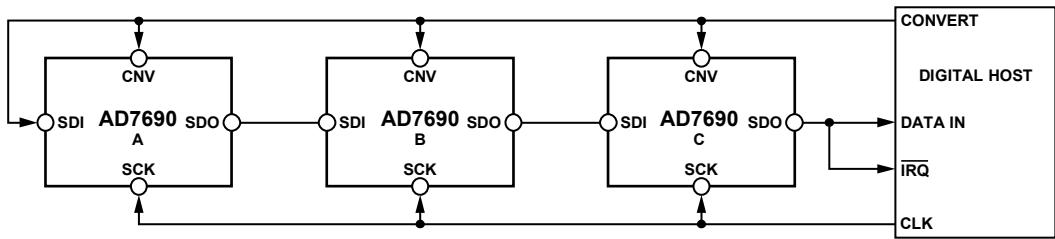
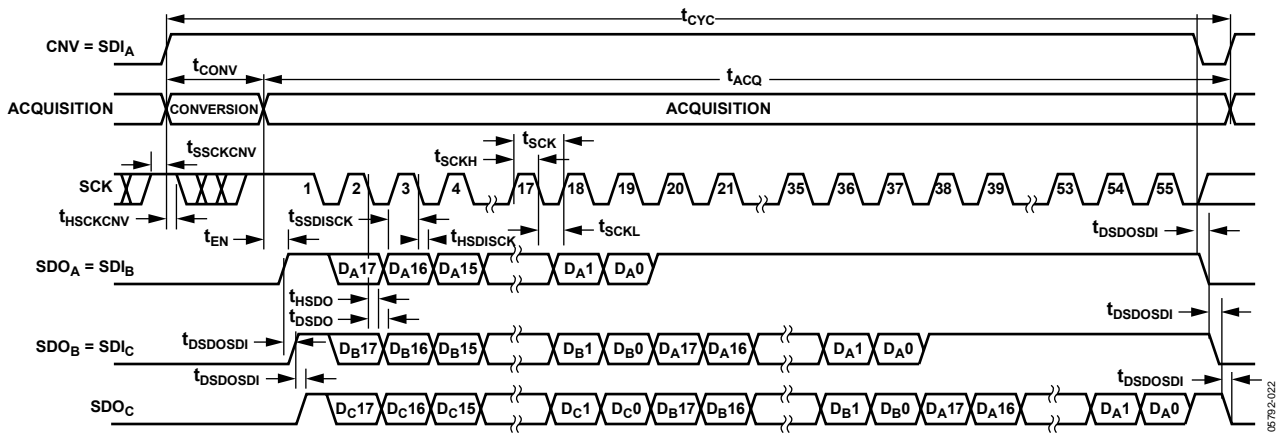

Figure 44. Chain Mode with Busy Indicator Connection Diagram
Figure 45. Chain Mode with Busy Indicator Serial Interface Timing
- In chain mode if SCK is high during the CNV rising edge (see Figure 45).
A connection diagram example using three AD7690s is shown in Figure 44, and the corresponding timing is given in Figure 45.
subsequent data readback. When all ADCs in the chain have completed their conversions, the SDO pin of the ADC closest to the digital host (see the AD7690 ADC labeled C in Figure 44) is driven high. This transition on SDO can be used as a busy indicator to trigger the data readback controlled by the digital host. The AD7690 then enters the acquisition phase and powers down. The data bits stored in the internal shift register are clocked out, MSB first, by subsequent SCK falling edges. For each ADC, SDI feeds the input of the internal shift register and is clocked by the SCK falling edge. Each ADC in the chain outputs its data MSB first, and $18 \times N + 1$ clocks are required to read back the N ADCs. Although the rising edge can be used to capture the data, a digital host using the SCK falling edge allows a faster reading rate and consequently more AD7690s in the chain, provided the digital host has an acceptable hold time.